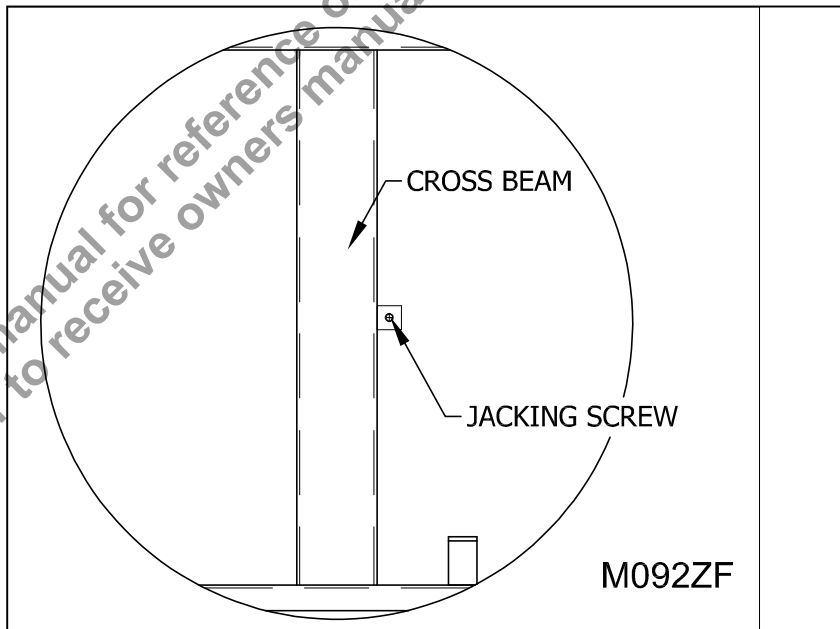

Figure 48: Use Jacking Screw to Eliminate Dead Space
10. ___ Also screw down the jacking screws to remove any potential dead space between the concrete and underside of the pan. (See "Figure 48: Use Jacking Screw to Eliminate Dead Space" on page 39).